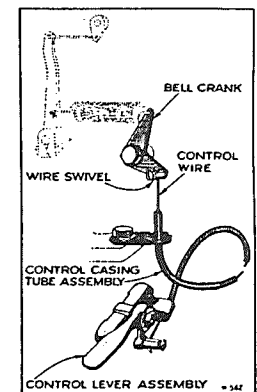

Fig. 10.
51. Model "WA" motors which are equipped with hand throttle controls are hooked up as illustrated in Figure 10. The control casing tube assembly is fastened down with one of the crankcase mounting screws. The control